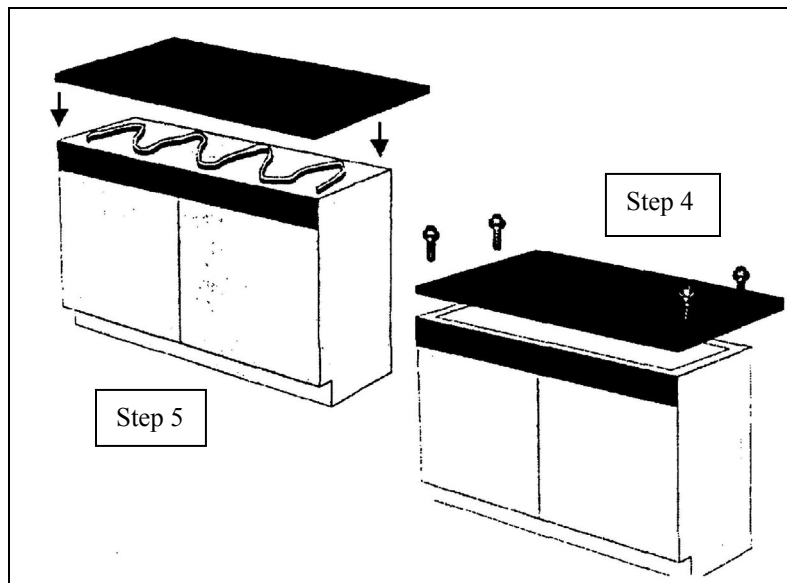

Figure 3-1
5. Secure the hardboard to the top of the base cabinet(s) using adhesives with the Solvent Storage Cabinets(s) or mechanical fasteners with the Acid Storage Cabinet(s). Figure 3-1